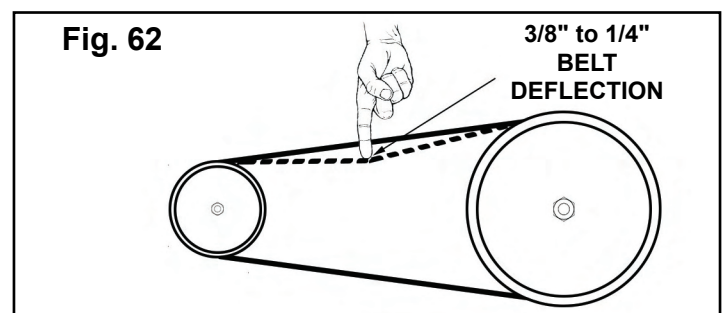

Fig. 62
3. Tension the drive belt to allow 3/8" to 1/4" deflection. Avoid over-tensioning to prevent damage to the belt, pulleys, and motor (FIG 62).